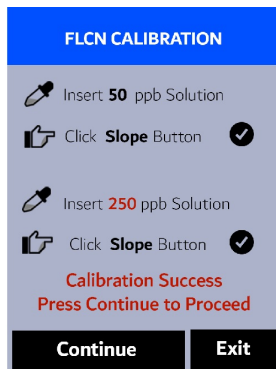

Figure 10.
13. If the calibration succeeds, a second checkmark (  ) "Calibration Success" message will appear (Figure 10). Otherwise, a warning message is displayed.